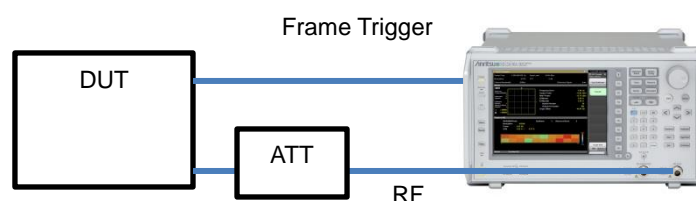

Fig. B-3 Transmit On Power Measurement Path
2. Press [↑]Top>[F2] Amplitude>[F9] Offset Value to set the loss of the transmit On power (attenuator, cable loss, etc.) path in Fig. B-3.
21. Set the transmit On power measurement path shown in Fig. B-3.